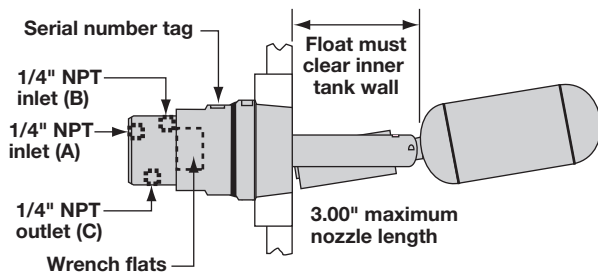

Figure 1
1. Ensure that the length and inside diameter of the mounting nozzle are sized correctly to allow for switch actuation at design levels. Refer to Figure 1.
3. Using a pipe wrench, rotate the unit clockwise until threads are tight in mounting. Ensure that the serial number plate is on top. See Figure 1.
2. Connect the inlet air line to the $\frac{1}{4}$ " NPT connection for either air inlet A or air inlet B, depending on the valve action desired (refer to Figure 3). Inlet air pressure should be between 0–200 psig. Refer to Figure 1 for location of air inlets.
3. Connect outlet air line to the $\frac{1}{4}$ " NPT connection on the bottom of the valve. This air outlet is designated with a "C". Refer to Figure 1 for location.
1. Use only the 2" wrench flats to install or remove the unit. Refer to Figure 1. Use of any other surface could change the calibration. The valve body is calibrated at the factory and locked in place.